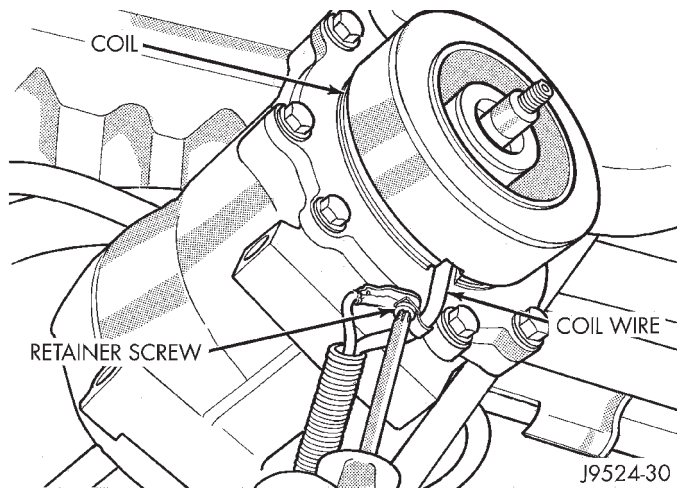

Fig. 24 Clutch Coil Lead Wire Harness
- (12) Remove the screw and retainer from the clutch coil lead wire harness on the compressor front housing (Fig. 24).